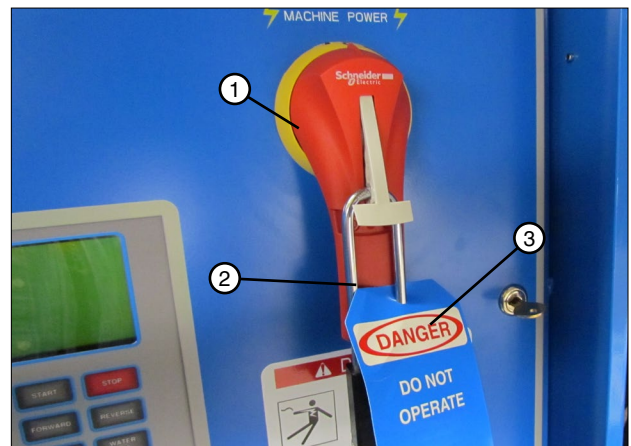

Figure 85-2 1. Main Disconnect
2. SHUT OFF and lock the control panel main power disconnect. See figure 85-2.
FILL OUT the blue (OSHA safety color code) tag and attach to the disconnect after locking. See figure 85-2.